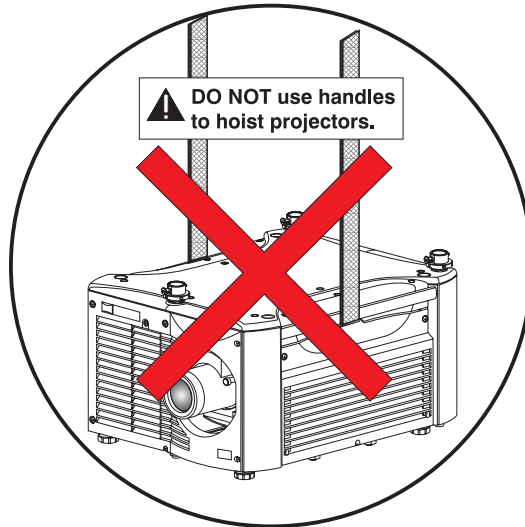

Figure 2.7. NEVER Use Handles for Hoisting or as Safety Points
- ◇ Never hoist a projector by its feet, handles, or any other component (Figure 2.7).